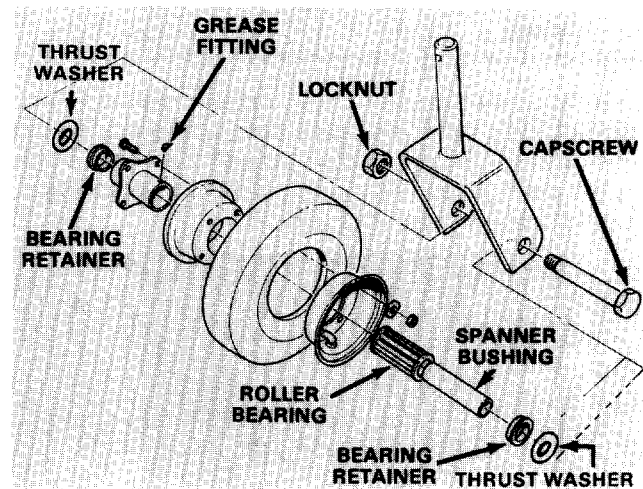

Figure 26
1. Remove locknut from capscrew holding castor wheel assembly between castor fork (Fig. 26). grasp castor wheel and slide capscrew out of fork.
Note: Account for the two thrust washers (Fig. 26).
2. Tip wheel to the side and allow spanner bushing to fall out (Fig. 26).
6. Pump grease through grease fitting on wheel (Fig. 26) until bearing is greased thoroughly.